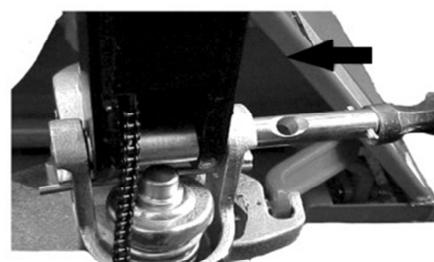

Fig.6: Axle assembling
- a) Insert the tiller arm(1) into the pump piston, then use a hammer to insert the axle with hole into the hydraulic pump and tiller arm from the right to the left (Fig. 6).